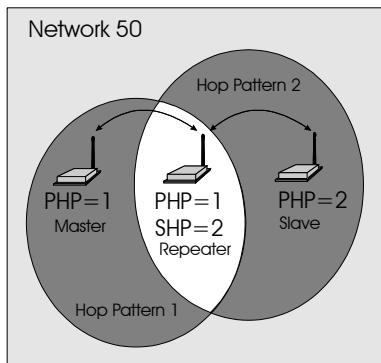
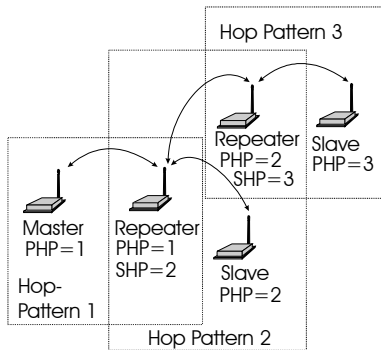

Figure 7 - Repeater Operation
Figure 8 - A Network Utilizing Three Hopping Patterns
4) Repeater. A more precise title would be Repeater/Remote, because a Repeater also has much of the same functionality as a Remote. A terminal can be connected at the Repeater location and communicate with the Master terminal. There is no restriction to the number of Repeaters in a network, allowing for communication over virtually limitless distances. The presence of one Repeater in a network automatically degrades system throughput by half. Additional Repeaters, regardless of the quantity, do not diminish system throughput any further. To understand Repeater operation, consider the module as belonging to two hopping patterns at the same time: The Primary Hopping Pattern and the Secondary Hopping Pattern. In Figure 7, the Master belongs to Hopping Pattern 1, and communicates with the Repeater on this hopping pattern. The Remote belongs to Hopping Pattern 2, and communicates with the Repeater on this hopping pattern. The whole system belongs to Network 50 (i.e., all units must be assigned the same Network Address (S104), which in this case was selected to be 50. Note that Remotes and Master only communicate on their respective Primary Hopping Pattern. Repeaters communicate on the Primary Hopping Pattern when communicating with the Master (or with another Repeater between itself and the Master). Repeaters communicate on their Secondary Hopping Pattern when communicating with Remotes (or with another Repeater between itself and the Remotes). Figure 8 shows another example.